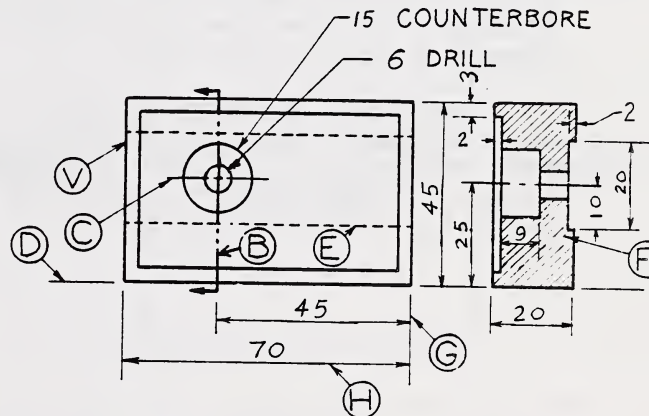

Fig. 1-14. Working drawing of a jig.
1. Match the names of the lines shown in Fig. 1-7 to Fig. 1-13 with the lines marked with letters in Fig. 1-14.